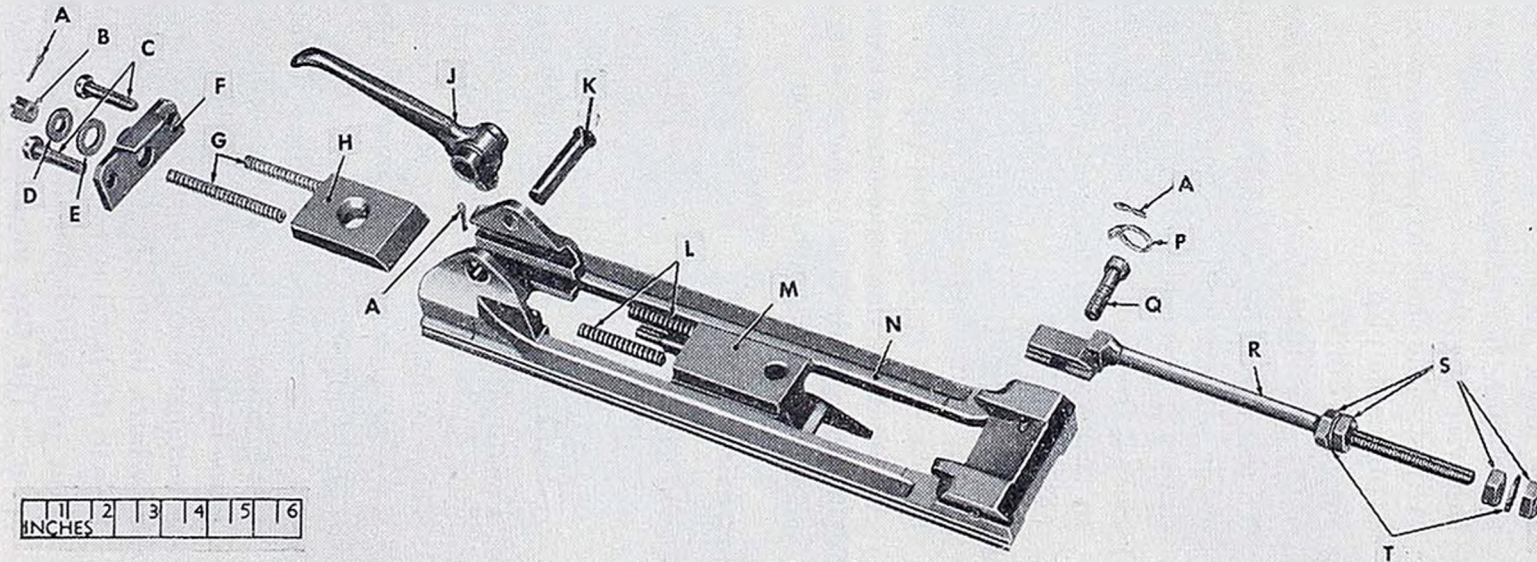
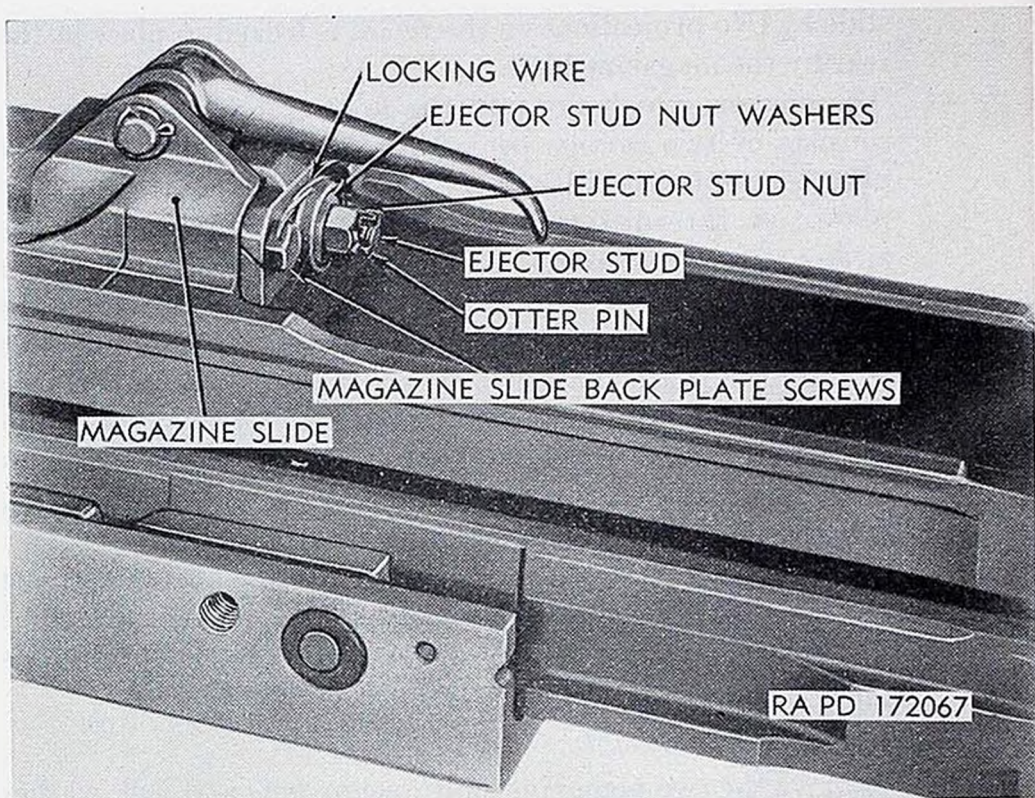

Figure 102. Magazine slide parts.
Figure 103. Removal of ejector.
a. General (fig. 102).
- (1) The function of the magazine slide is to hold the feed mechanism in a fixed position with respect to the cradle while the rest of the gun recoils during firing.
- (2) The magazine slide has machined runners on either side that slide back and forth in machined runways on the receiver. There is an upper and a lower set of longitudinal grooves in the magazine slide to house the magazine latch (upper set) and the ejector (lower set).
- (3) Two magazine latch springs fit into the magazine latch and rest against the magazine slide back plate, which is held in place by two magazine slide back plate screws. The springs give tension to the latch, which is held in place by the magazine latch lever. The ball of the lever fits into a countersunk hole in the latch and is secured in place by the magazine latch lever pin, which fits through two lugs on the slide and the lever. The feed mechanism, which is held in place on the
- (1) Remove the two magazine slide anchor nuts and lock washer on the front end of the magazine slide anchor (fig. 102).
- (2) Remove driving spring or springs and rear buffer assembly (par. 66).
- (3) Remove cotter pin that secures ejector stud nut (fig. 103).
- (4) Remove ejector stud nut and the ejector stud nut washers (figs. 103 and 104).
- (6) Remove locking wire and gradually and evenly unscrew magazine slide back plate screws (figs. 102 and 103).
- (7) Remove magazine slide back plate and two magazine slide latch springs (fig. 102).
- (8) Remove cotter pin from magazine latch lever pin, withdraw magazine latch lever pin, and remove magazine latch lever and magazine latch (fig. 102).
- (9) Push magazine slide rearward and off receiver.
- (10) Remove cotter pin, anchor securing screw, and anchor screw lock washer from magazine slide anchor (fig. 102).
- (11) Withdraw magazine slide anchor from magazine slide (fig. 102).
- (1) Attach magazine slide anchor to magazine slide, with threaded portion of the magazine slide anchor pointing away from the front end of the magazine slide (fig. 102). The magazine slide anchor should be installed on the same side as the anchor support bracket (fig. 32 or 33).
- (2) Install magazine slide anchor securing screw and magazine slide anchor screw lock washer and secure with cotter pin (fig. 102).
- (3) Slide magazine slide, with magazine slide anchor leading, into the guideways of the receiver.
- (4) Place magazine latch in upper grooves on magazine slide, with the angled end pointing toward muzzle of gun, as shown in figure 102.
- (5) Position magazine latch lever so that its ball is in hole in magazine latch, handle of lever points toward rear of gun, and hole in lever aligns with holes in magazine slide (fig. 102). Install magazine latch lever pin and secure it with cotter pin (fig. 102).
- (6) Insert the two latch springs into their seats in rear of magazine latch (fig. 102).
- (7) Place magazine slide back plate flush against latch springs and screw in evenly the two magazine slide back plate screws (fig. 102). Secure the magazine slide back plate screws with locking wire (fig. 103).
- (8) Insert the two ejector springs into their recesses in rear of ejector (fig. 102). Place ejector in the two grooves of magazine latch and slide it to rear until ejector stud protrudes through hole in magazine slide back plate (figs. 102 and 103).
- (9) Place ejector stud fiber washer on ejector stud, with hole bevel toward ejector (outside bevel will then face the rear), follow with ejector stud nut steel washer, and then screw on the ejector stud nut (figs. 102 and 104). Draw stud nut tight, then back it off three-quarters of a turn to prevent the ejector springs from being compressed solidly and to prevent the ejector from piercing the rim of the cartridge during ejection. Secure the ejector stud nut with cotter pin (figs. 103 and 104).
- (10) Install magazine slide anchor front nuts and lock washer on front end of magazine slide anchor (fig. 102).